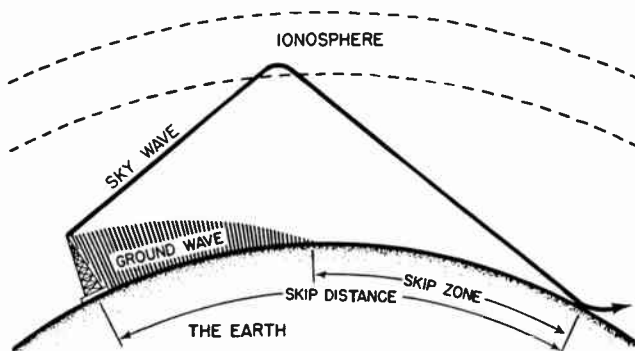

FIG. 17-1. PROPAGATION OF RADIO WAVES.
**PROPAGATION OF RADIO WAVES.** Radio waves that leave a transmitter take two general paths. One path is along the surface of the earth and is called the **GROUND WAVE**. The other path is toward the sky and is called the **SKY WAVE**. See Fig. 17-1.
It can be seen from Fig. 17-1 that if the angle of radiation (the angle between the sky wave and the earth) is increased, the skip distance will be decreased and the signal will return to earth at a point closer to the transmitter. By the same token, if the angle of radiation is decreased, the skip distance will increase.